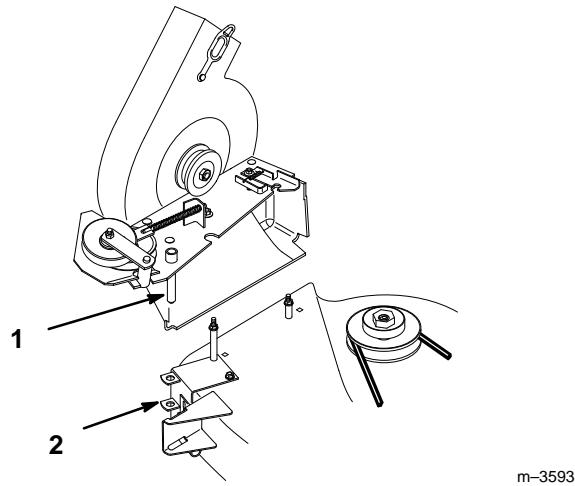

Figure 30
2. Remove the blower by lifting the pivot pin out of the pivot support (Fig. 30).